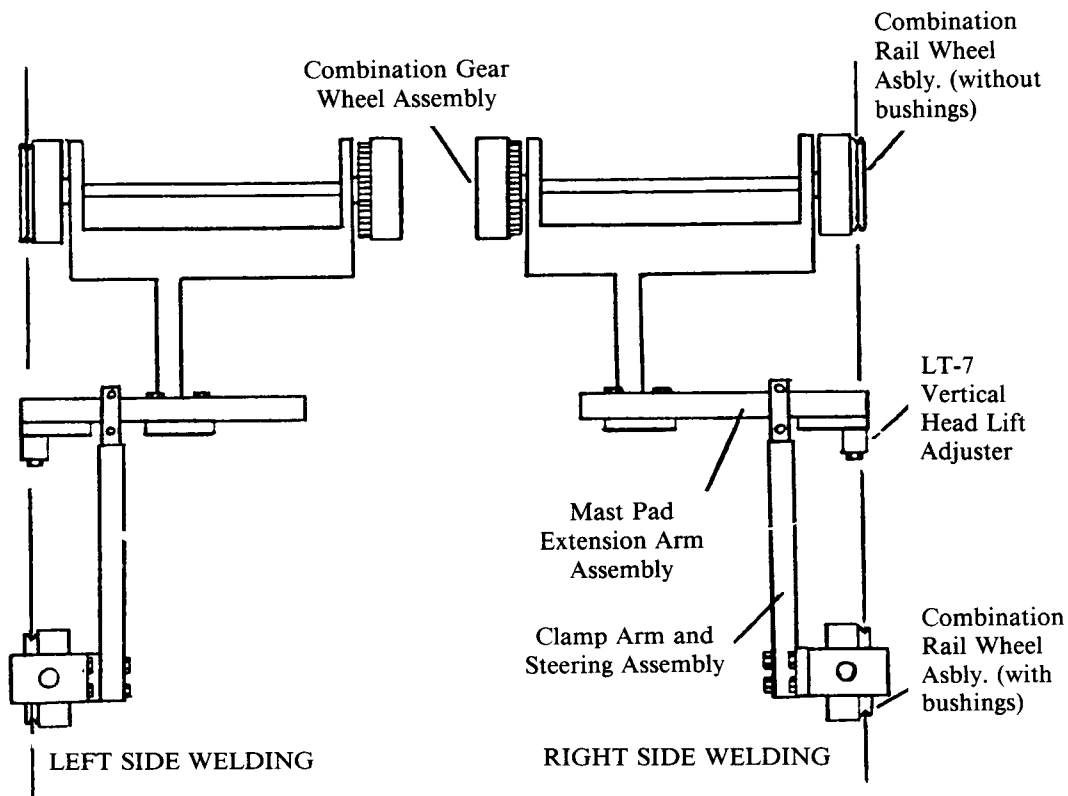

Figure 1
The LT-7 is shipped set up for right side welding as per Figure 1. If left side welding is desired, or for left to right conversion, proceed per the following instructions:
- a. Rear Wheel Configuration (refer to Fig. 1)
b. Front Frame Configuration (refer to Fig. 1)